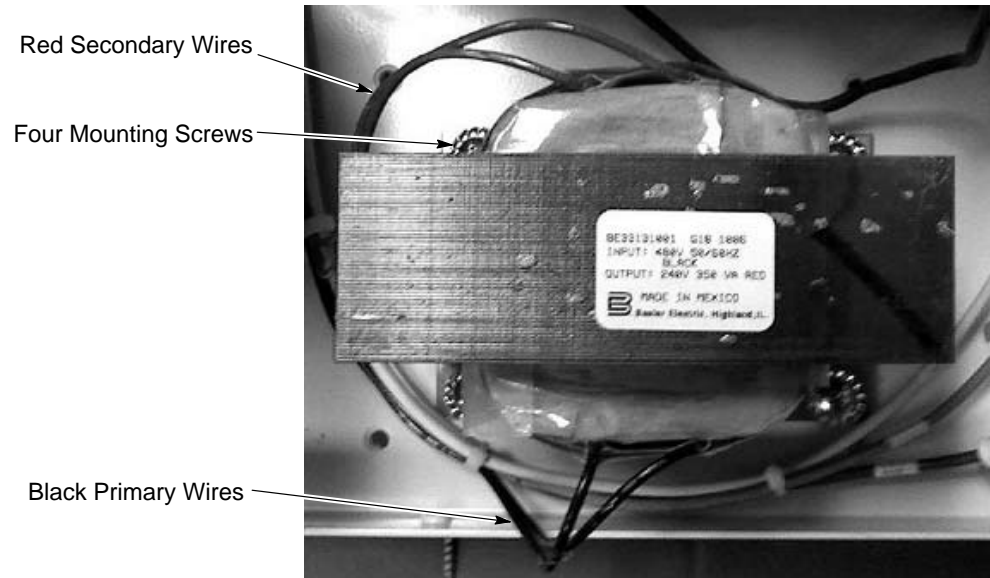

Figure 4 Cutting Old Transformer Wires
- See Figure 4. Cut wires about 0.25 in. from the transformer winding. Cut both red secondary wires and remove from harness. Cut both black primary wires, but DO NOT remove. These wires are used for the new transformer. Remove the four transformer mounting screws and washers.